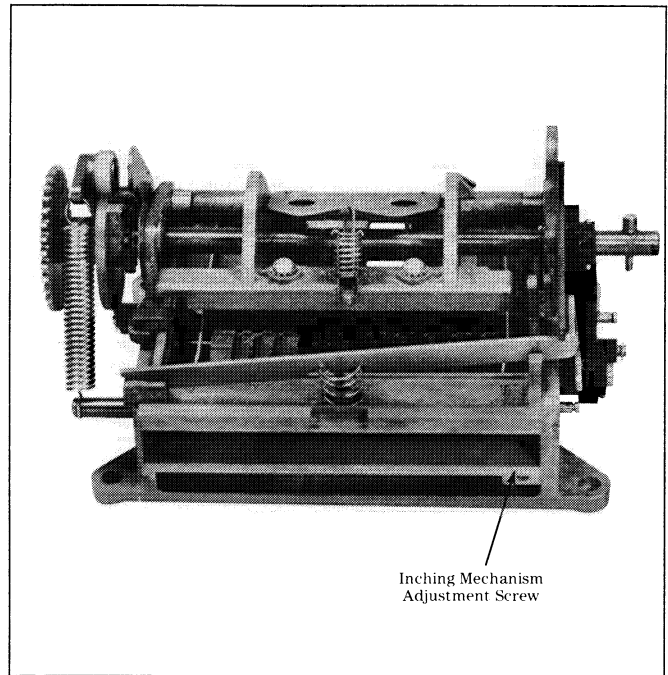

Figure 18. Right-Hand Wheel Inching Mechanism Adjustment Screw
1. Adjustment of the inching of the printer's right-hand wheel is accomplished by turning the adjusting set screw, Figure 18. Turning screw clockwise, the inching occurs at a higher number and counterclockwise at lower inching numbers.